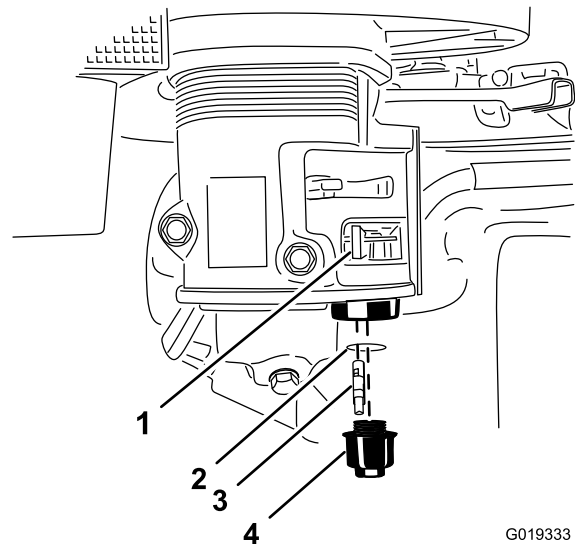

Figure 56
3. Move the lever of the fuel valve to the Off position, all the way to the left (Figure 56).
4. Unscrew the sediment cup (Figure 56).
5. Remove the fuel filter and O-ring (Figure 56).
8. Install the fuel filter in the bottom of the carburetor (Figure 56).